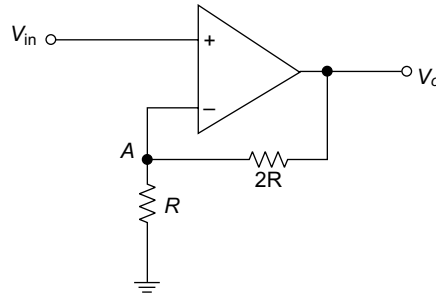

Fig. 5.99
5. The output voltage of an OP-AMP circuit as shown in Fig. 5.99 is